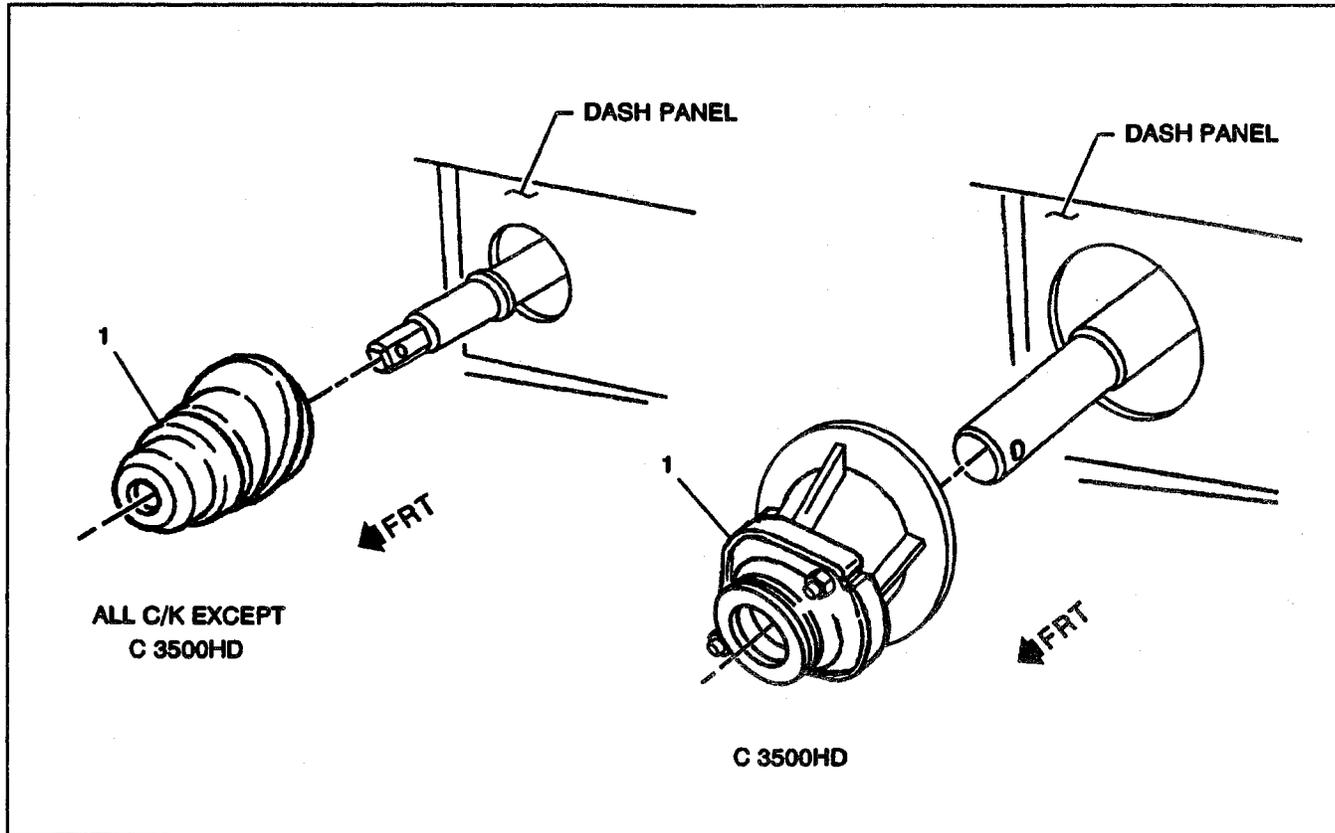

Figure 9—Steering Column Seal
2. Push locking ring tabs inward one at a time until seal separates from the dash panel. Note position of locating tab directly at bottom of the locking ring and dash panel opening (Figure 9).